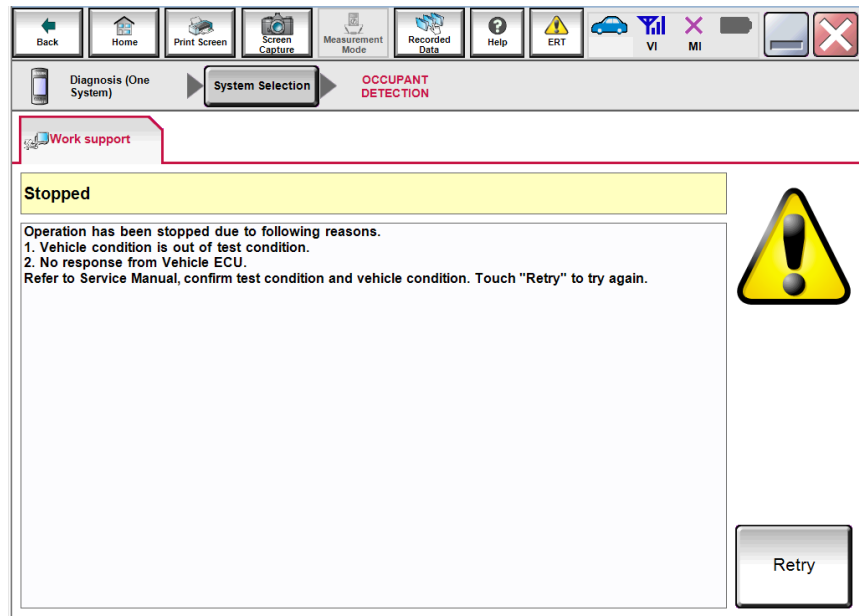

Figure 11
- After selecting **Start** if Figure 11 is displayed: